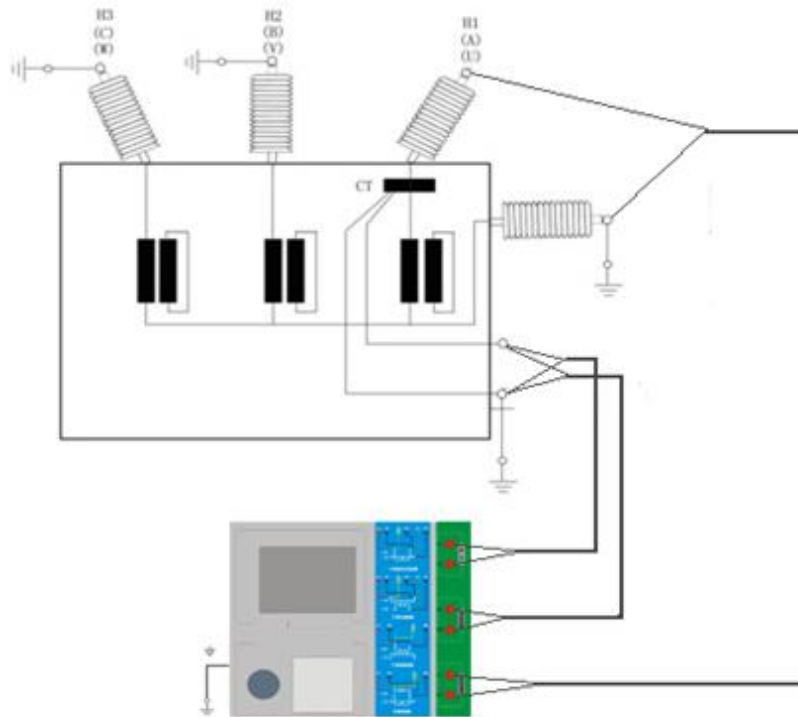

Figure D.3 TRANSFORMER TESTER on the transformer bushing testing at the time of CT Connection
2. TRANSFORMER TESTER for transformer testing casing CT Connection shown in Figure D.3.